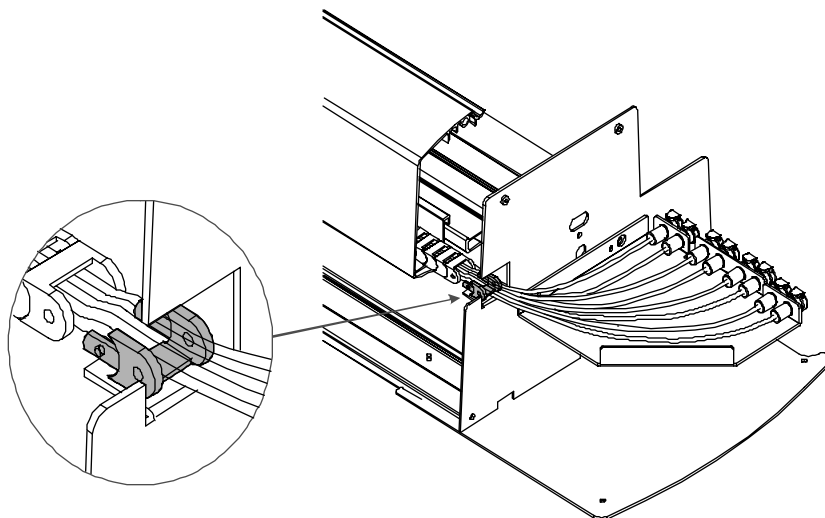

Figure 5-11. Disconnect Ink Delivery System Link.
5. Disconnect the last link of the Ink delivery System from the rest of the link assembly by pressing in on the two small posts from the next to last link that are located in the holes of the last link. See Figure 5-11. Releasing one post at a time may be easier to accomplish than trying both at once.